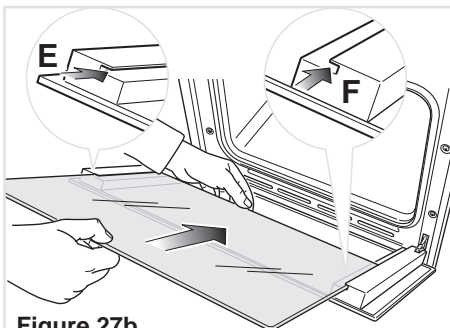
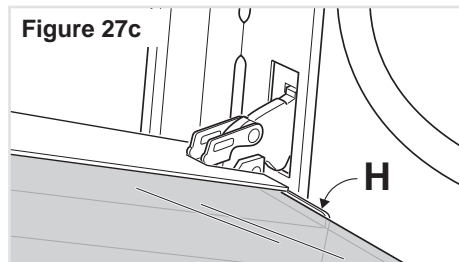

Figure 27b
Figure 27c
- Insert the pane in the left "E" and right "F" slide guides (fig. 27b), and gently slide it to the retainers "H" (fig. 27c).